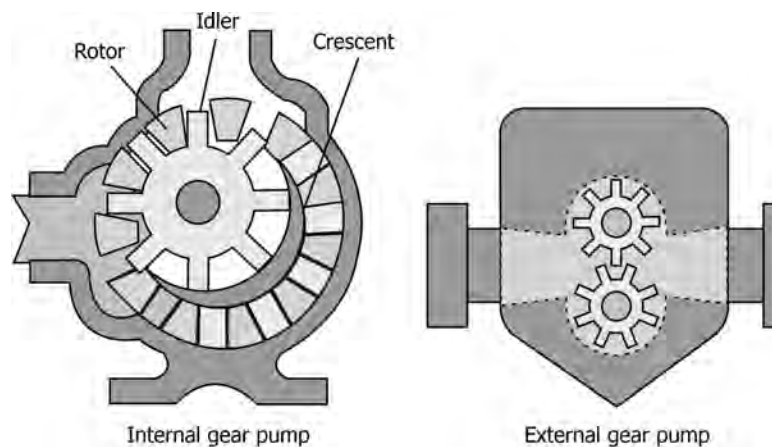

FIGURE 5.25 Gear pumps.
- Gear pumps may be of internal or external gear type as illustrated in Figure 5.25.